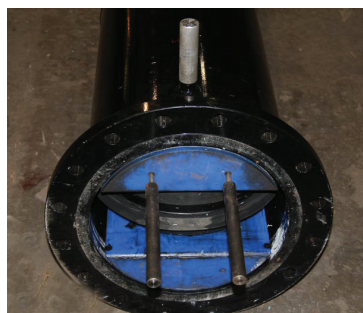

Figure G-10
G.19) Visually check to ensure proper valve cartridge orientation – the gate is to be perpendicular to the alignment port before continuing (see Figure G-10). Remove the gate housing extensions.